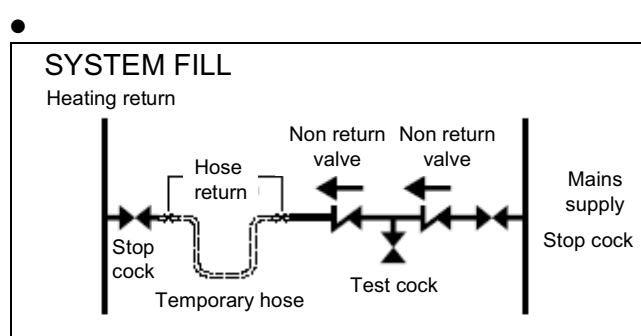

Fig 69 Requirements Fluid Category 3 systems
- 1 Requirements Fluid Category 3 systems (Fig. 69 see right)